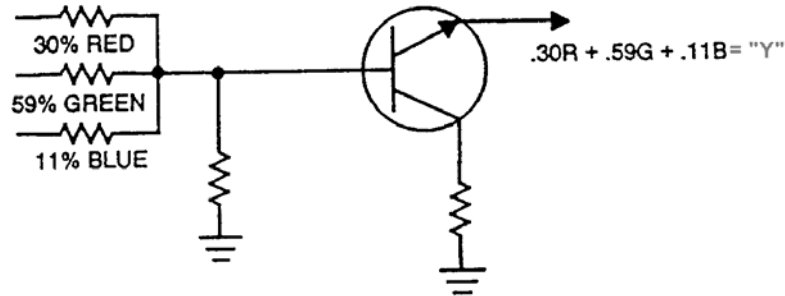

Figure S-25. Y Matrix
c. The Y Signal is formed by applying the red, green, and blue pickup tube outputs to the base of an amplifier (see Figure S-25). Thus the three signals are in phase with each other, input and output. A resistor network (cross-connected voltage divider) determines that the amplitude of the Y amplifier output will consist of 30 percent red, 59 percent green, and 11 percent blue. This Y signal corresponds to the variations of brightness in the scene being televised. This Y signal corresponds to the variations of brightness in the scene being televised. This is the signal received by a black and white TV receiver, and is the brightness component in a color receiver.